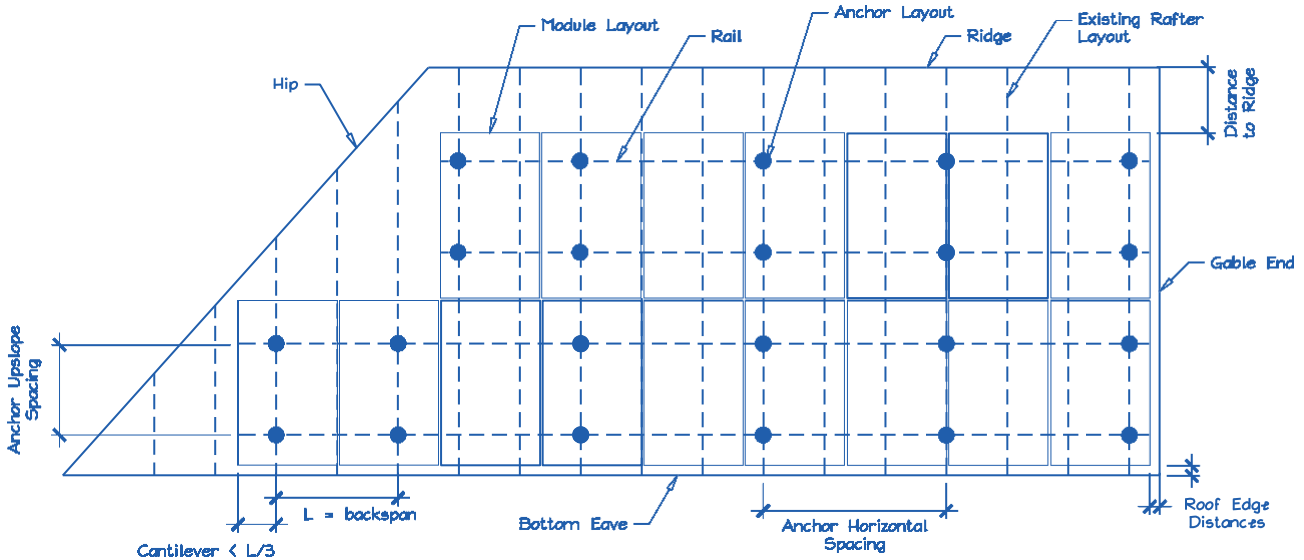

Figure 2. Sample Solar Panel Array and Anchor Layout Diagram (RoofPlan).
1. Anchors are also known as “stand-offs,” “feet,” “mounts” or “points of attachment.” Horizontal anchor spacing is also known as “cross-slope” or “east-west” anchor spacing (see Figure 2).